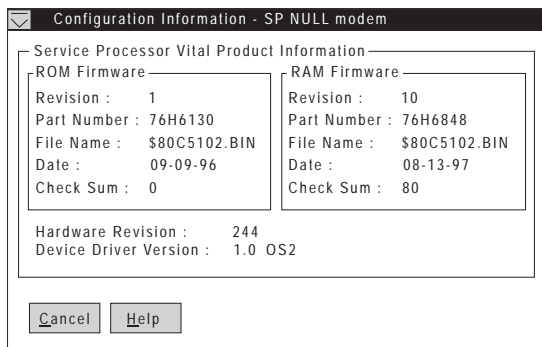

Figure 1. The Configuration Information window
**Configuration Information:** The Configuration Information window (shown in Figure 1) contains detailed information about the system management subsystem, including RAM microcode, ROM microcode, and device-driver information.